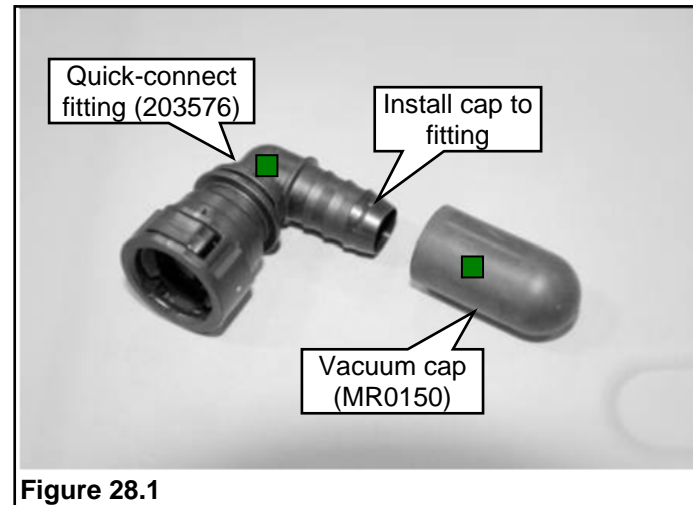

Figure 28.1
1. Preassemble quick-connect fitting and vacuum cap found in hardware kit P12EB-VAPOR-A. **Figure 28.1.**